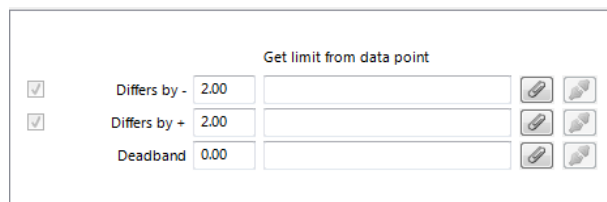

Figure 63: Condition for an Analog Feedback Alarm.
7. For an analog feedback condition fill in the alarm condition as shown in Figure 63. A feedback alarm is generated, if the setpoint **differs by** – and **differs by** + value from the feedback value. Enter a **Deadband** to account for hysteresis. Attach or detach data points for those limits. This can also be done by editing the property relations 'lowLimit', 'highLimit', and 'deadband', respectively (see Section 4.2.8).